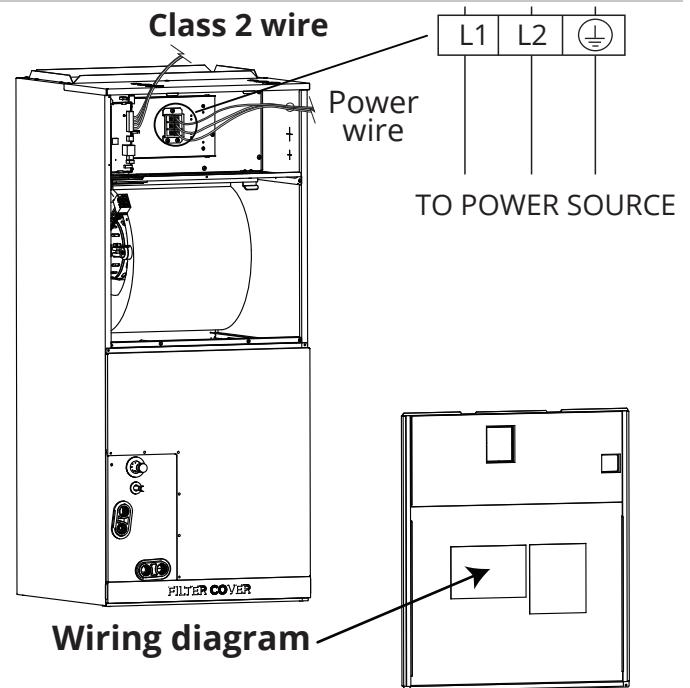

Fig. 7.2
- Properly connect the wiring by securely fastening the u-lug or ring terminal of each wire to the corresponding terminal on the terminal block. Refer to the unit serial number and the wiring diagram located on the electric control box cover (**Fig. 7.2**). **NOTE: For more detailed illustrations of the different variations of wiring connections, depending on your specific application, please refer to the wiring diagrams on pages 47-50.**